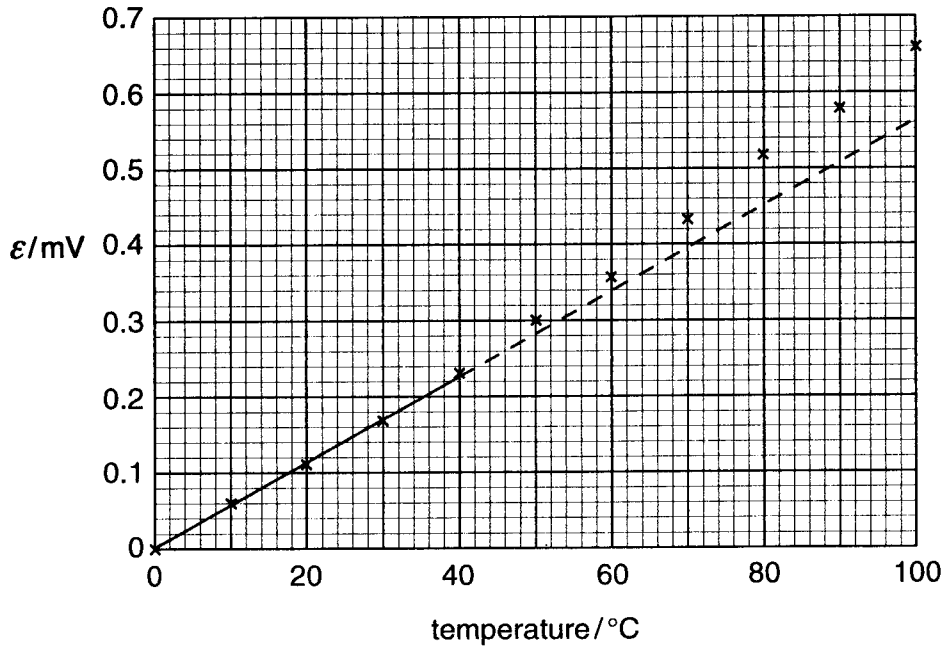

Fig. 8.1
- 8 An active temperature sensor produces an emf \mathcal{E} which depends on temperature. The points in Fig. 8.1 show how the emf varies with temperature. A straight line fitting the data up to 40 °C has been added to the graph.
- (a) (i) Describe the relationship between the emf \mathcal{E} and the temperature in °C shown by all the data points of Fig. 8.1.
- (ii) Estimate the **sensitivity** of the temperature sensor in the range 0 °C to 40 °C from the data points in Fig. 8.1.